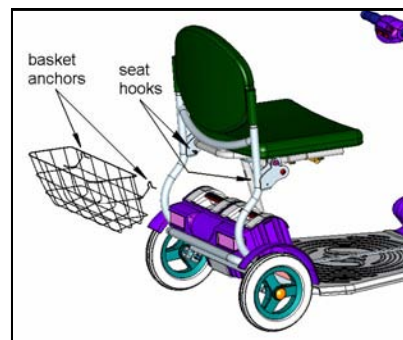

Fig 6
- Attach the rear basket by hooking it over the lugs on the seat (fig 6). Do not overload the basket. Maximum load 10 Kg.